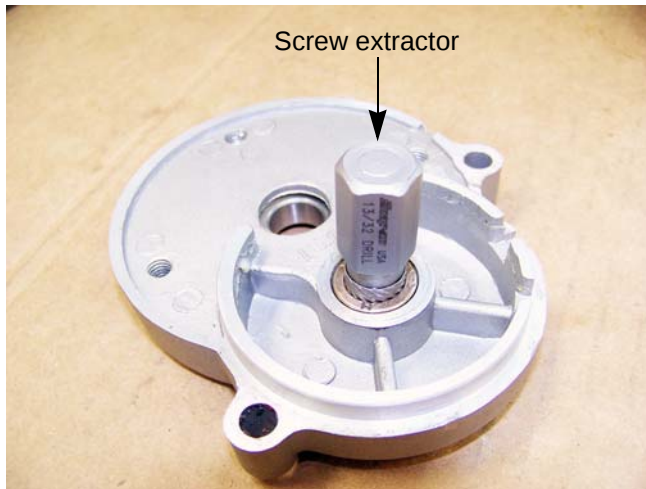

Figure 6.16
22. Remove the bushing from the clutch/pinion cover. See Figure 6.16.